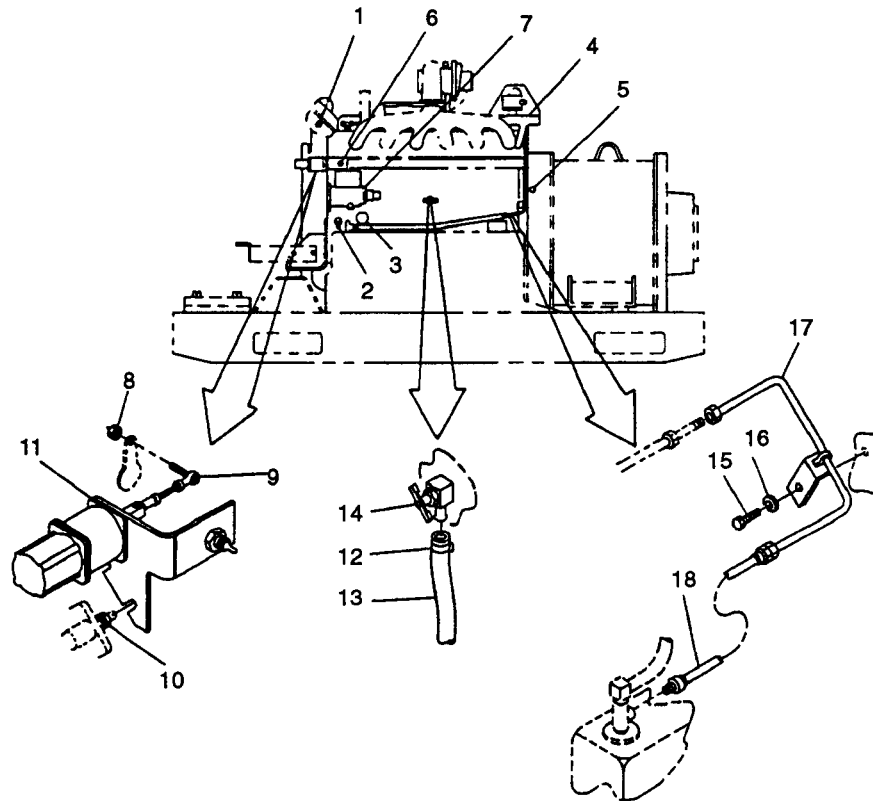
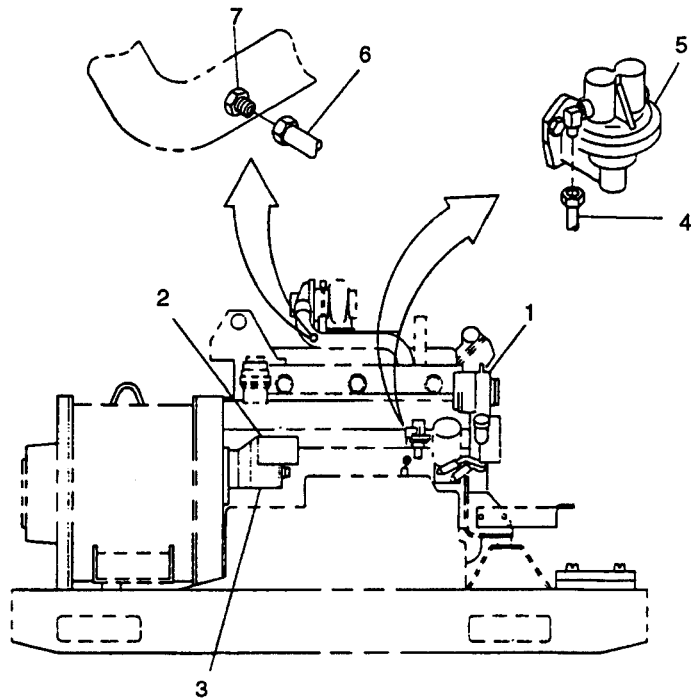
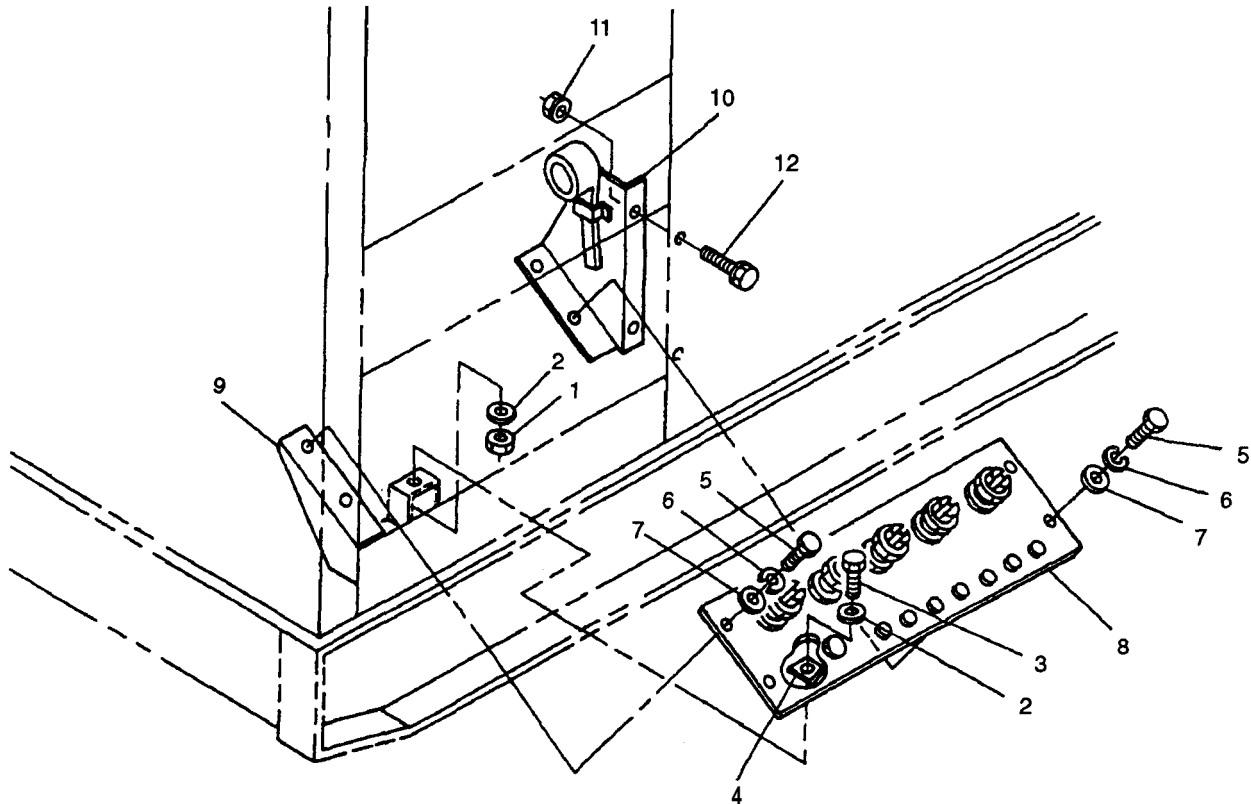

FIGURE 3-11. Left Side Engine
FIGURE 3-12. Right Side Engine
FIGURE 3-13. Load Output Terminal Board
- aj. On left side of engine, tag and disconnect electrical leads from coolant high temperature switch (1, FIGURE 3-11), low oil pressure switch (2), oil pressure sender (3), coolant temperature sender (4), magnetic pickup (5), DEAD CRANK switch (6), and fuel injection pump (7).
- ak. Remove nut (8) from rod end (9). Loosen nuts (10) and remove governor actuator assembly (11) with wiring harness attached. Place out of the way.
- al. Loosen clamp (12) and disconnect coolant drain hose (13) from engine block coolant drain valve (14).
- am. Remove bolt (15) and lockwasher (16) securing fuel return line (17) to engine block.
- an. Disconnect fuel line (17) at injectors excess fuel line, and fuel hose (18) at fuel tank. Remove line (17) and hose (18) as an assembly, Cap openings.
- ao. Open right side engine access doors, tag and disconnect electrical leads from battery charging alternator (1, FIGURE 3-12), starter solenoid (2) and starter motor (3).
- ap. Disconnect fuel line (4) at fuel pump (5). Cap openings.
- aq. Disconnect tube (6) from ether start spray nozzle (7) at intake manifold.
- ar. Remove nut (1, FIGURE 3-13), lockwashers (2), and bolt (3) securing ground strap (4) to skid base.
- as. Remove bolts (5), washers (7), and lockwashers (6) securing load output terminal board assembly (8) to supports (9) and (10). Pull load output terminal board assembly out through access door.
- at. Remove assembled nuts (11), bolts (12), and support (10) from right side panel.
- q. Install support (10, FIGURE 3-13) on right side panel with bolts (12) and assembled nuts (11).
- r. Install load output terminal board assembly (8) on supports (9) and (10) with bolts (5), lockwashers (6), and washers (7).
- s. Secure ground strap (4) to skid base with bolt (3), lockwashers (2), and nut (1).
- t. Connect tube (6, FIGURE 3-12) to ether start spray nozzle (7) at intake manifold.
- u. Connect electrical leads to battery charging alternator (1), starter solenoid (2) and starter motor (3) on right side of engine, and remove tags.
- v. Remove caps and connect fuel line (4) to fuel pump (5).
- w. Remove caps and position fuel line (17, FIGURE 3-11) and hose (18) in generator set. Connect line (17) to injectors excess fuel line, and hose (18) to fuel tank.
- x. Secure fuel line (17) to engine block with bolt (15) and lockwasher (16).
- y. Connect coolant drain hose (13) to engine block coolant drain valve (14) and tighten clamp (12).
- z. Install governor actuator assembly (11) to engine assembly with nuts (10), and connect rod end (9) with nut (8).
- aa. On left side of engine, connect electrical leads to fuel injection pump (7), DEAD CRANK switch (6), magnetic pickup (5), coolant temperature sender (4), oil pressure sender (3), low oil pressure switch (2), and coolant high temperature switch (1). Remove tags.